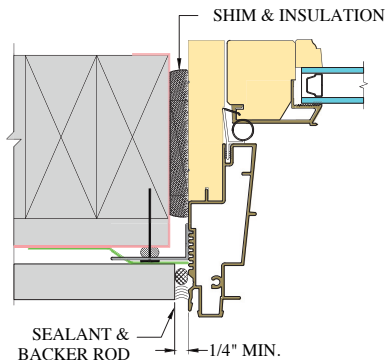
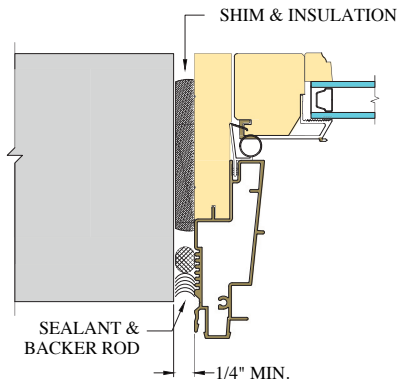

FIG. 30: SIDE JAMB – NAIL FIN INSTALLATION
FIG. 32: SIDE JAMB – NO NAIL FIN INSTALLATION
- A) After siding or wall exterior is complete, apply backer rod and sealant between the door frame and siding material on both sides. See figures 30 and 31 for nail fin installation and figures 32 and 33 for no nail fin installation.
- C) Insulate between the door frame and the rough opening using minimally expanding window and door spray foam insulation. Use caution to not overfill the gap causing the jambs to bow. It is not recommended to apply trim to the unit until the foam has cured to allow the excess to escape. (Fig. 30, 31, 32 & 33)